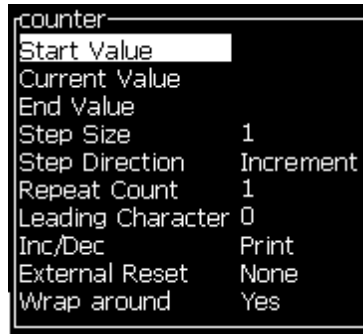

Figure 5-31: New Counter Dialog Box
- 4 Press the *Enter* key to open the counter dialog box for counters (see Figure 5-31).
- 5 Set the values for all the fields in the *Counter Configuration* dialog box (see Figure 5-31).